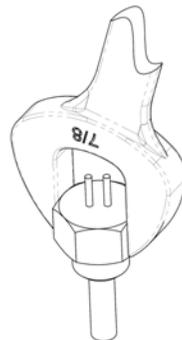

Figure 79-11 Positioning the Wrench to Remove the Oil Temperature Sensor
With the two Adel wire clamps out of the way, there is just enough room to get the wrench on to the sensor and turn it just enough to break the threads free. Then bring the wrench straight down from the top and complete the removal of the sensor. See Figure 79-11 to see the correct positioning to complete the removal of the oil temperature sensor.
11. Insert oil temperature sensor assembly into the hole for the oil temperature sensor. Use a 7/8-inch wrench as shown in Figure 79-11 to turn-in the oil temperature sensor.